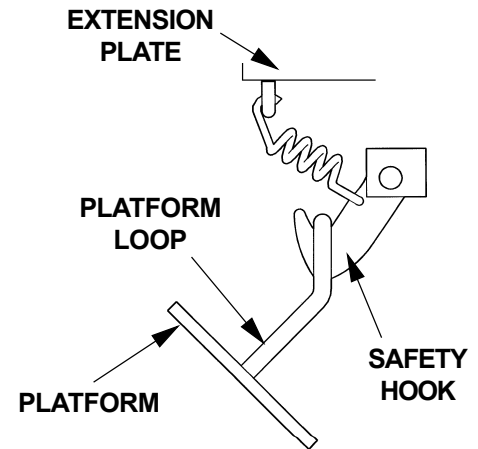

FIG. 8
2. Visually check if loop is fully engaged with the Safety Hook as shown in **FIG. 8**.